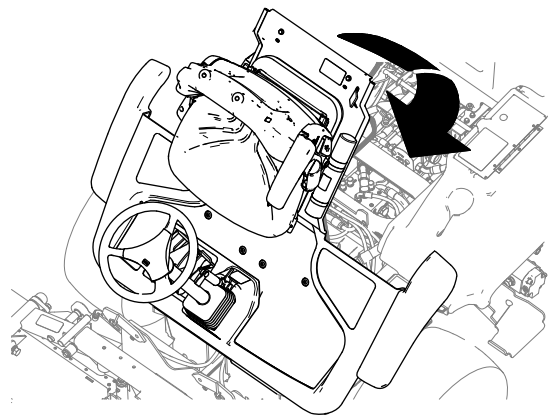

Figure 45
1. Lower the platform carefully (Figure 45).